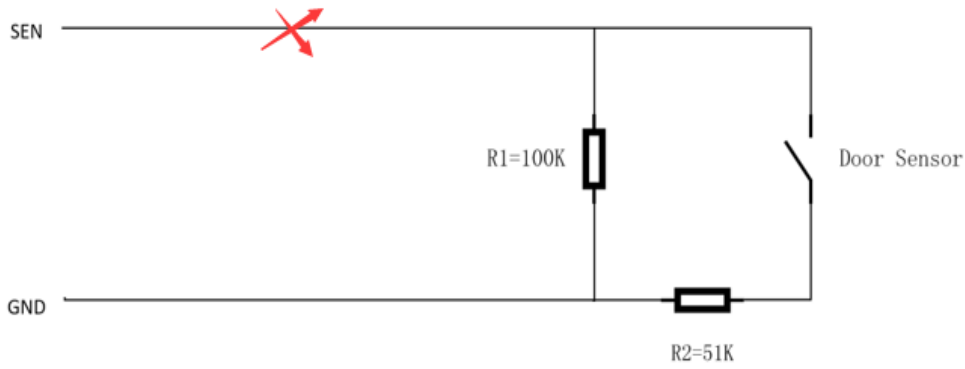

Figure 3-6-3
**Cut = The cable is disconnected\cut off (Figure 3-6-3) :**